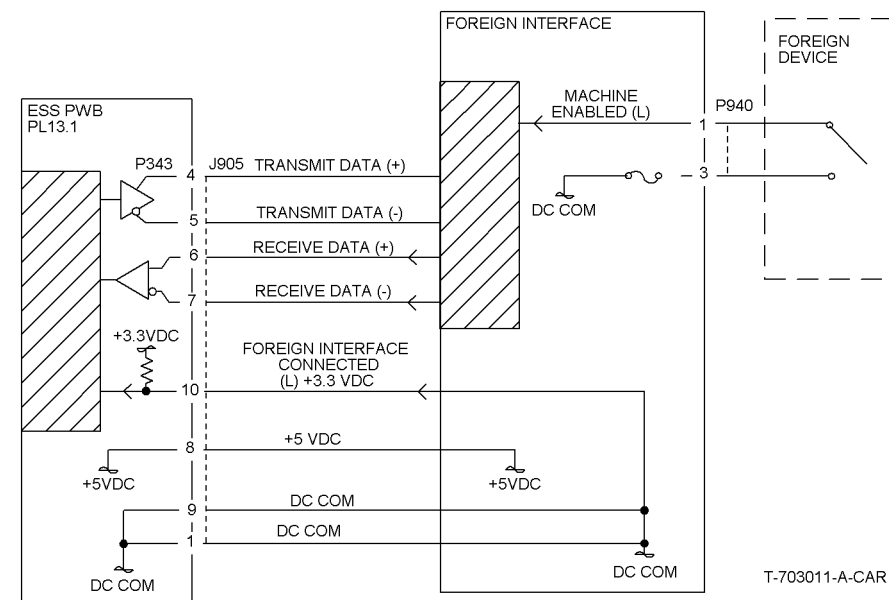

Figure 1 121-334 RAP Circuit Diagram
**NOTE:** Refer to Figure 1 (Circuit Diagram).